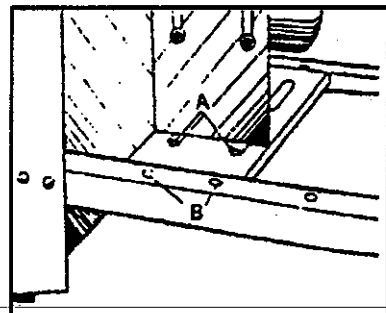

Fig. 10
Assemble the motor mounting plate (A) Fig. 10. using the two hex head cap screws, flat washers and nuts (B). The other end of the motor plate is fastened to the side of cabinet using a camage bolt from the outside of the cabinet and a flat washer and nut on the inside.
Attach the motor to the motor mounting plate as shown in Fig. 10. using the four camage bolts, flat washers and square nuts.